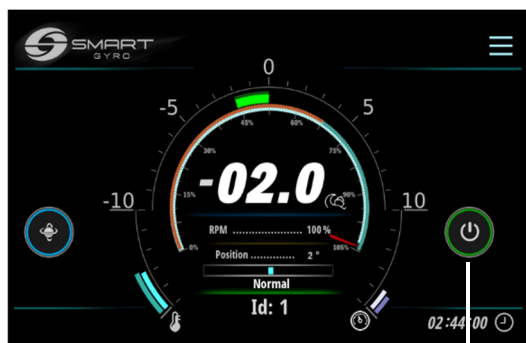

Figure 10
2. Press the power (ON/OFF) icon (Figure 10, (1)).